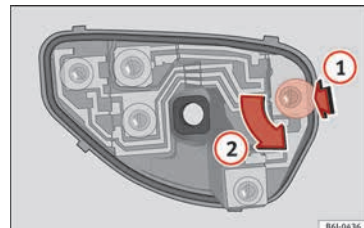

Fig. 110 Changing the tail light bulbs
- When the bulb holder has been removed, press in the direction of the arrow **(1)** and at the same time, turn in the direction of the arrow **(2)** » **Fig. 110**